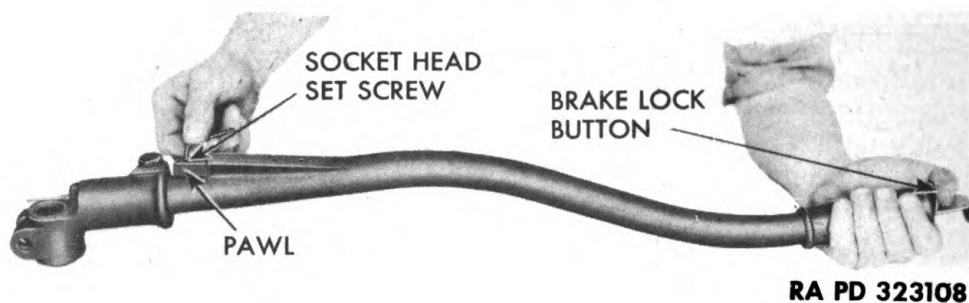
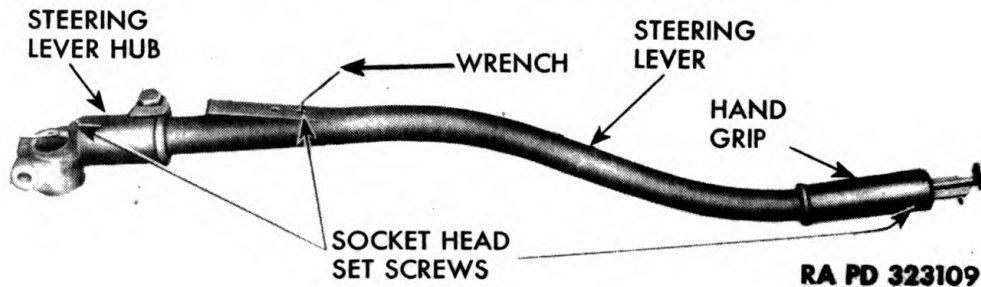
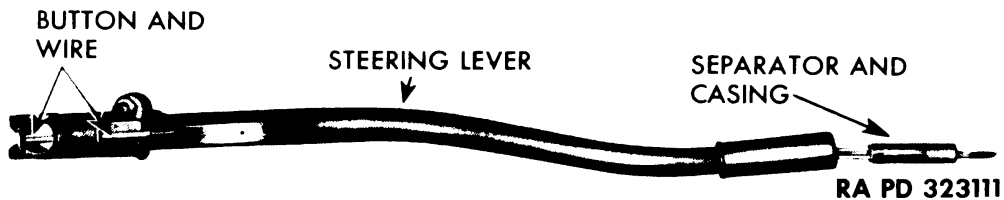

Figure 109 — Removing Steering Lever Pawl
Figure 110 — Steering Lever with Parts Identified
Figure 112 — Steering Lever Thumb Control Unit Installation
e. Disassemble Each Steering Lever. Remove cotter pin, and loosen nut on bolt which attaches wire to siren switch clamp. Pressing down on brake lock button, remove socket-head set screw from brake pawl, and remove pawl (fig. 109). Remove three socket-head set screws; one at lever hand grip, one at steering lever hub, and one at guide from which pawl was removed (fig. 110). Pull thumb control unit out of lever. Pull buttons with wire and springs out of control unit.
(3) Inspect all other parts, and replace if worn excessively or damaged. *NOTE: Air and electric brake control valve and controller power cylinder are covered in paragraphs 101 and 108.*
a. **Steering Levers.** Install buttons and wires in bottom end of steering lever. Install separator and casing over wires, and push it into position in top of steering lever (fig. 112). Remove buttons and wires, and insert them with springs in separator and casing. Install three socket-head screws; one at hand grip, one at pawl guide, and one at steering lever hub (fig. 110). Pressing down on brake lock button, install pawl in position, and install socket-head set screw (fig. 109).